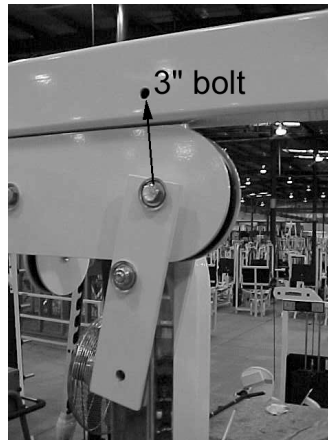

Figure 10. Mount adjustable pulley bracket.
- A. Using a 9/16" socket and combination wrench, remove the tricep back rest bolts (see Figure 10).
- B. Using a 9/16" socket and combination wrench, unbolt the top plate and remove the guide rods (see Figure 10).
6. **Mount adjustable pulley bracket.** When shipped, the adjustable pulley bracket looks like the one shown in Figure 10. The bolts need to be removed and the bracket needs to be positioned so that the top of the bracket is in the top hole as shown by the arrow in Figure 10. Use a 3" bolt with flat washers, end cap washers and end caps. When you remove the bolts, leave the pulley bolt and pulley out since you will need to thread the cable with the pulley removed.